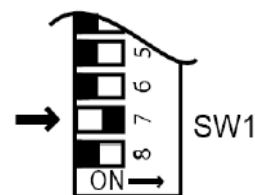

Fig. 3
10. Set the Rinnai Infinity to **'Forced Low'** combustion by setting No.7 dip switch of SW1 to 'ON'. (Fig. 3)